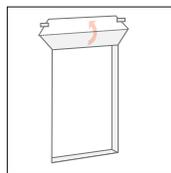

fig. 5
- Cut two 45 degree slits a minimum of 8" from the corner of the header to create a flap above the rough opening to expose the sheathing or the framing material to allow head flashing installation. Flip head flap up and temporarily secure with tape. **(fig. 5)**